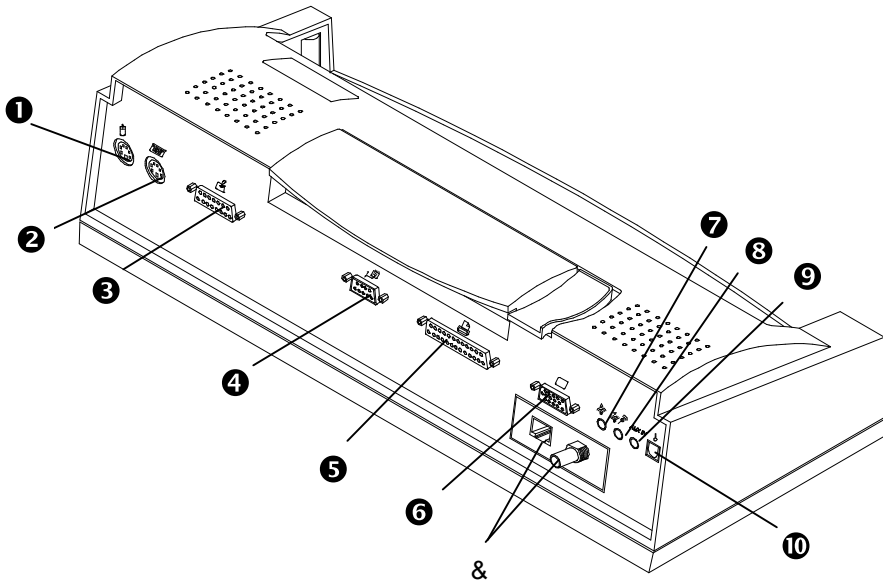
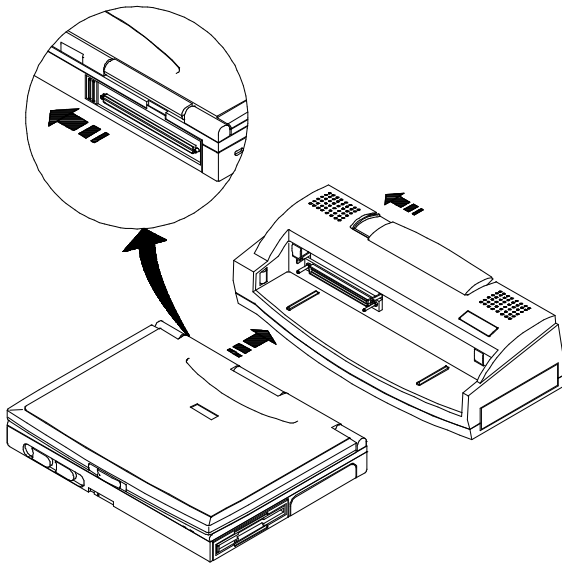

Figure 6-12: The Port Replicator's Ports
Figure 6-13: Connecting the Notebook to the Port Replicator
Figures 6-12 displays the rear side of the Port Replicator and labels the locations of the serial and peripheral device ports. *Figure 6-13* pictures the notebook's Port Replicator station being properly aligned with the notebook's I/O port.
The AC adapter port and all peripheral ports are located on the rear side of the Port Replicator. Please see *Figure 6-12* for a complete port layout. The Port Replicator supports hot-plug connections. This means that you can connect peripheral devices to the Port Replicator without having to turn off the power. You'll want to place the Port Replicator flat on a desk near a wall outlet or an extension cord with a built-in circuit breaker.
2. Locate the MIDI port on the back of your PC. It is on the rear side of the Port Replicator, the third port from the left. Please refer to **Figure 6-12** if you are having trouble locating this port.
1. Locate the VGAport on the back of your Replicator Please refer to *Figure 6-12* if you are having trouble locating this port.
1. Locate the serial port on the back of your Port Replicator. Please refer to *Figure 6-12* if you are having trouble locating this port.
2. Locate the audio-in port on the rear side of the Replicator. Please refer to *Figure 6-12* if you are having trouble locating this port.
2. The microphone port is round and is located directly to the left of the audio-in port. Please see *Figure 6-12*. Beyond this variance, connection of a microphone is exactly the same as connecting a audio-in unit to the Port Replicator.
2. The Audio-out port is round and is located directly to the left of the microphone port. Please see *Figure 6-12* if you are having trouble locating this port.
You may want to refer to *Figure 6-12* and *Figure 6-13* as you read these instructions for a visual guide to connecting the notebook to the Port Replicator.
4. Locate the replicator's 240-pin port. It is found on the front left side of the Port Replicator. Please refer to **Figure 6-13** if you are having trouble locating this port. The rear of the Replicator is designed for peripheral connections.
7. Slide the long rectangular-shaped Release latch in the direction of the arrow shown in *Figure 6-13*. This will unlock the latch allowing the notebook to be connected to the port.